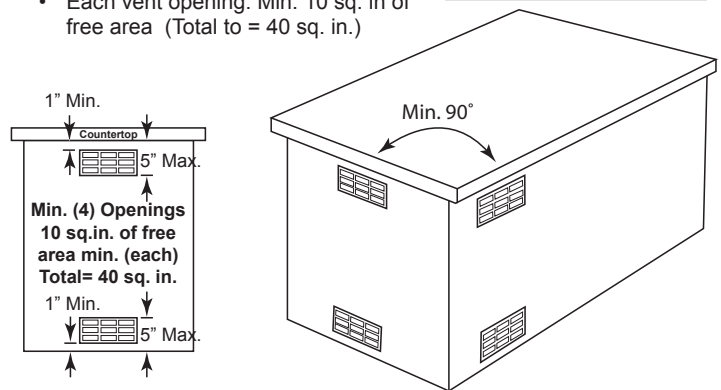

Figure 9
- Two openings should be in the side walls of the enclosure, at the top and spaced a minimum of 90° from each other. The openings should begin 1" or less below the countertop edge and end no more than 5" below the countertop edge. See Figure 9.
The clearance between the openings and any items outside of the enclosure is a minimum of 6". The clearance between the openings and any items within the enclosure is a minimum of 2". This provides free flowing air inside and outside the enclosure to keep the island cool during operation of the grill. See Figure 9.